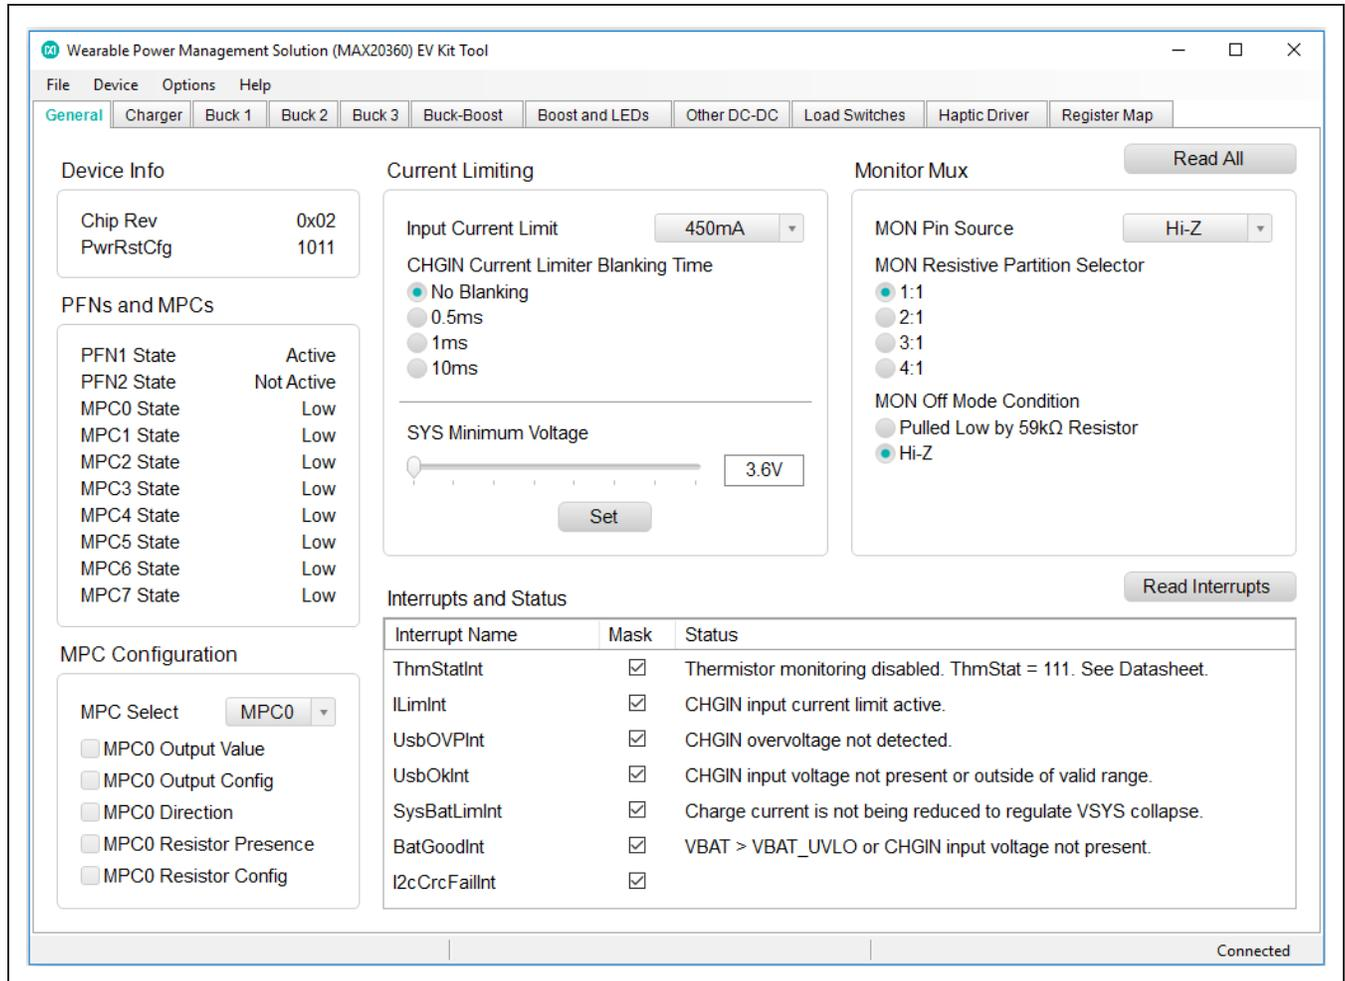

Figure 2. Connected Status
- 8) Press the PB1 (/KIN) button until the device enters ON mode. The GUI then shows **Connected** and the registers are read and displayed (Figure 2).